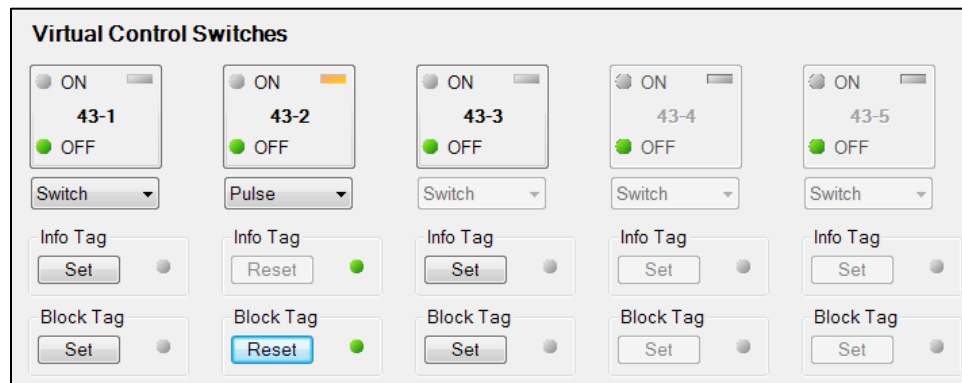

Figure 31-1. Virtual Switches Control Screen
1. Use the Metering Explorer to open the Control/Virtual Switches tree branch (Figure 31-1).
2. If Switch/Pulse mode is selected on the Virtual Control Switches (43) settings screen in BESTCOMSPi.us, use the drop-down box to select either Switch or Pulse.
Tagging of virtual control switches can be accomplished through the front panel and through BESTCOMSPi.us. Use the Metering Explorer in BESTCOMSPi.us to open the Control/Virtual Switches tree branch. Click on the Set button for Info Tag or Block Tag. If tagging is successful, the indicator to the right of the Set button will turn green. A tagged switch is indicated by an amber indicator in the upper right corner of the element button. Click on the Reset button to clear a tag. Refer to Figure 31-1.